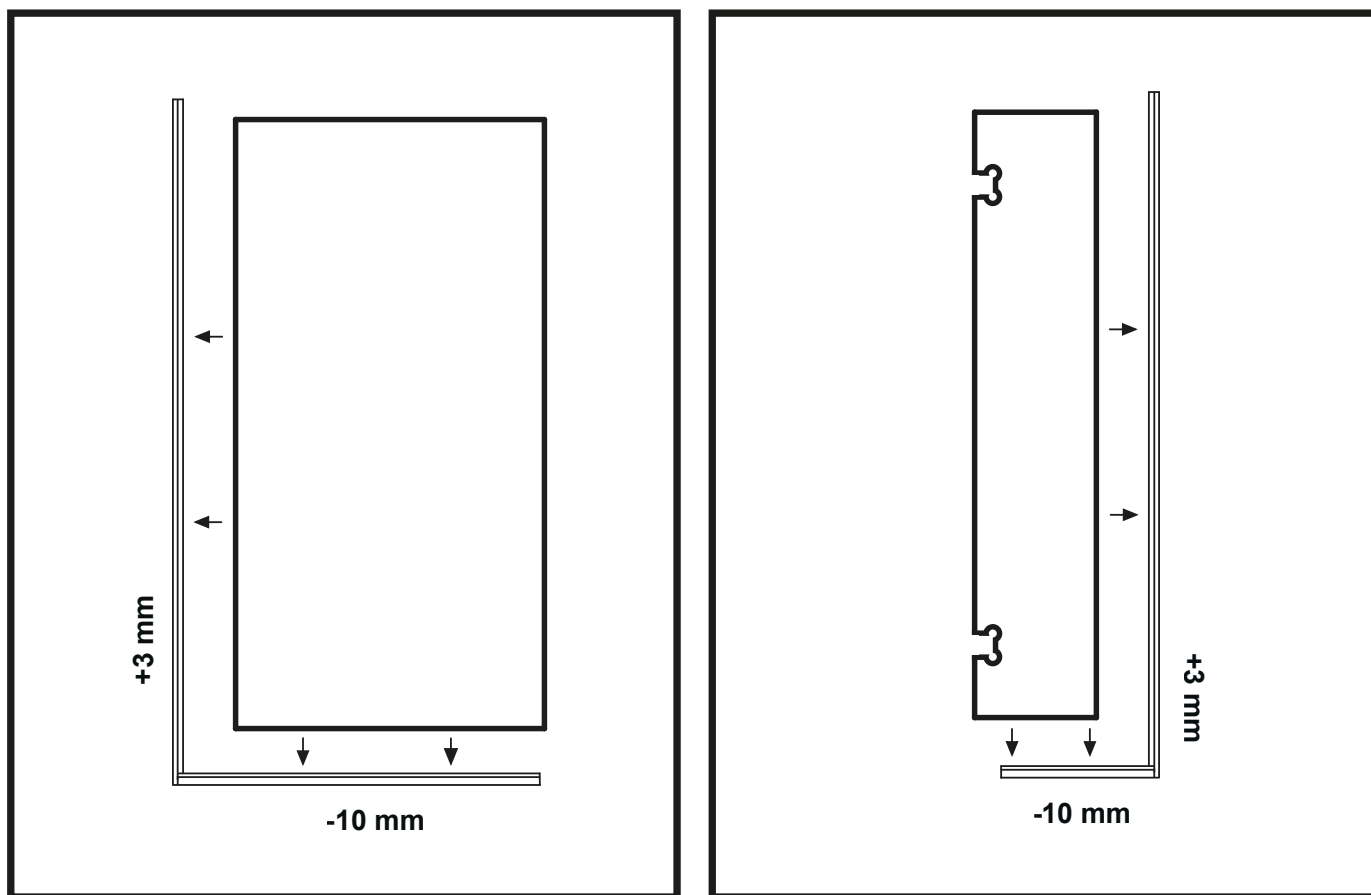

Figure 2
5. Check the length of the U-profile and the glass. The bottom U-profile should be about 10 mm shorter than the glass and the longer vertical U-profile should be about 3 mm longer than the glass. (Figure 2)